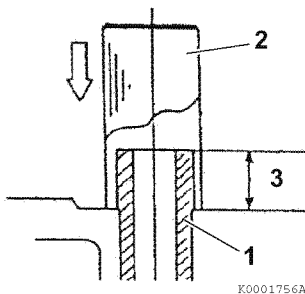

Figure 6-28
3. Finish installing the valve guides (Figure 6-28, (1)) into the cylinder head to the proper height (Figure 6-28, (3)) using the valve guide installation tool (Figure 6-28, (2)). See *Valve Guide Projection specification starting on page 6-5.*